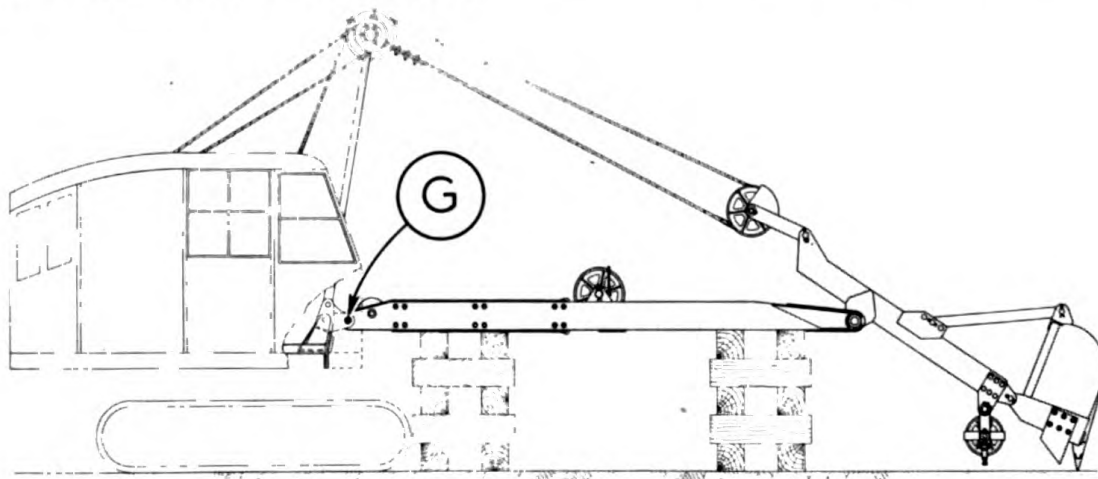

FIGURE 89
Reeve the jib frame cable as per instructions, Page (86). Raise jib frame using same levers for raising crane boom Page (47). Drive the machine to the pull shovel boom and attach boom to adapter with pins (G) as shown in figure 89. Reeve hoist and pull cables as per instructions, Page (86).